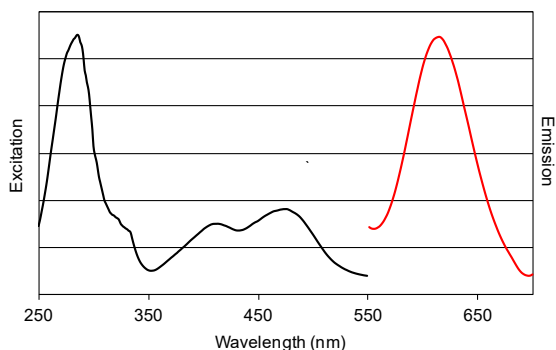

Figure 1. Excitation and emission spectra of Lumitein.
**Spectral Properties:**  $\lambda_{\text{abs}}$  = ~280 nm, ~450 nm (broad);  $\lambda_{\text{em}}$  = 610 nm (See Figure 1)
Lumitein has a UV excitation maximum at around ~280 nm and a broad visible excitation maximum centered around ~450 nm (Figure 1). It emits bright red fluorescence at around ~610 nm. As a result, gels stained with the dye can be viewed using a standard 300 nm UV transilluminator (with ethidium bromide emission filter), a 470 nm blue LED transilluminator, or a laser scanner with a laser line at 450, 473, 488 or 532 nm. For maximum sensitivity, a 490 nm longpass filter should be used. A list of suitable excitation sources and emission filters is shown in Table 2 (below).